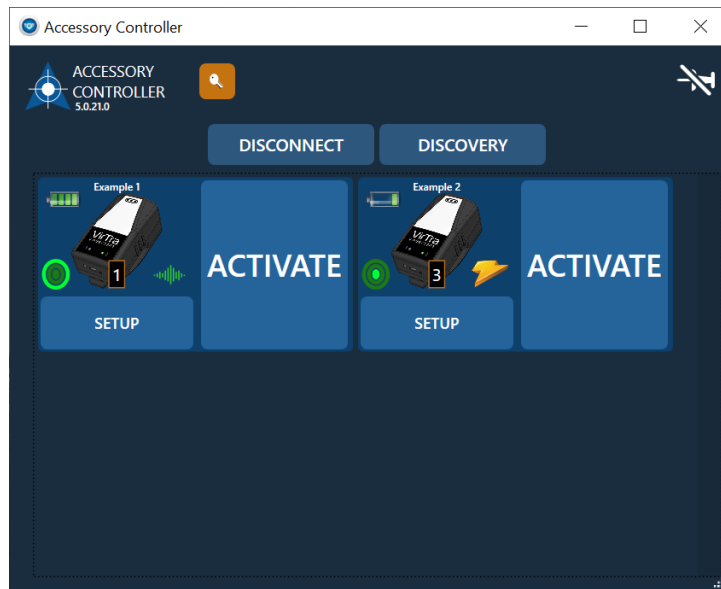

Fig. 6
- e. The V-Threat-Fire device will show up in the Accessory Control interface as shown below (Fig 6).